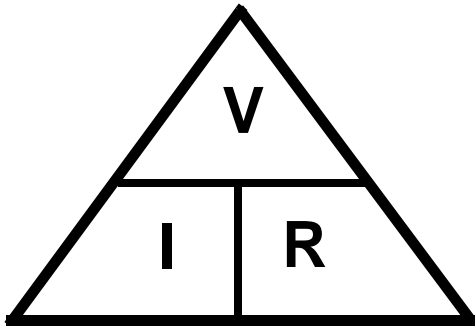

Figure 7.39
- Those who were traumatized by algebra can represent Ohm's law as a triangle. When using the triangle, cover the value to be found, and the two values left exposed signify how to obtain that value. See Figure 7.39.